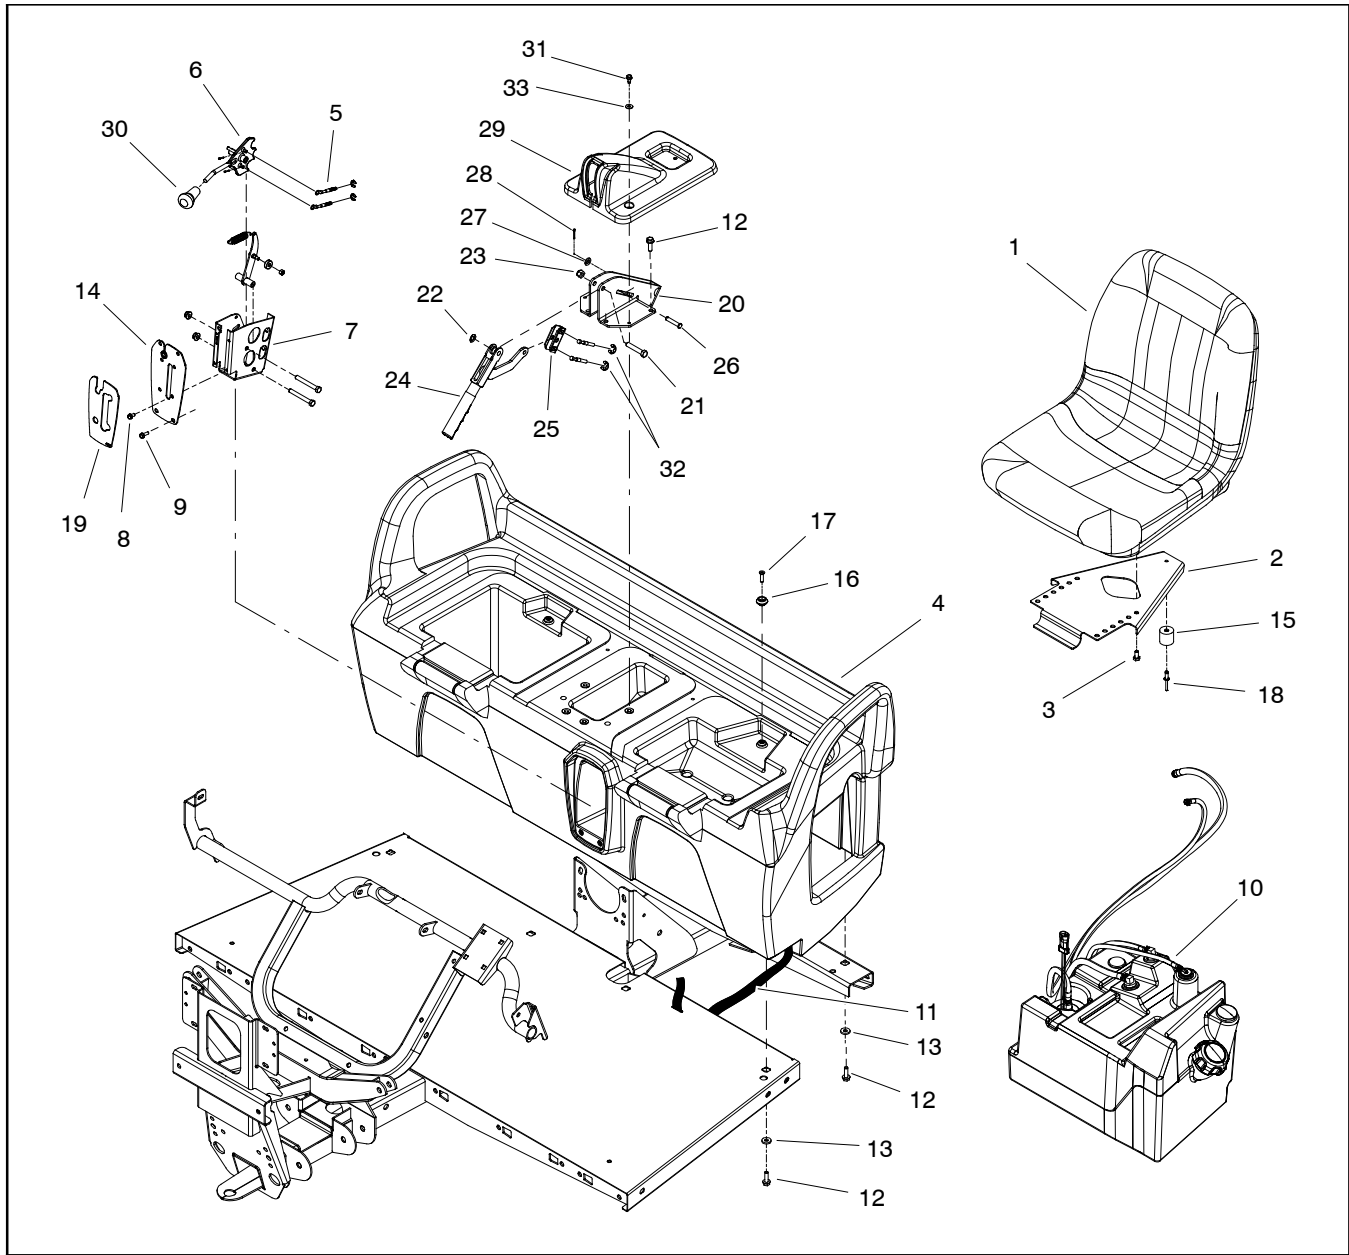
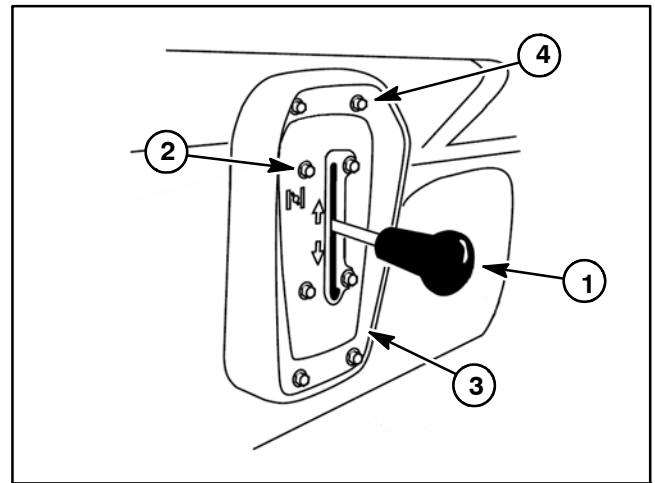

Figure 33
Figure 34
Seat Base Removal (Fig. 33)
4. Unscrew knob from the shift lever. Remove four (4) flange head screws (item 8 in Fig. 33) that secure the shift plate to the shift bracket (Fig. 34).
5. Remove four (4) flange head screws (item 9 in Fig. 33) that secure the shift plate to the seat base (Fig. 34). Separate shift bracket from the seat base.
6. Remove eight (8) flange head screws and flat washers that secure the seat base to the frame.
Seat Base Installation (Fig. 33)
2. Install eight (8) flange head screws and flat washers through the frame and into the seat base. Tighten screws from the middle of the vehicle to the outside.
4. Position shift plate to shift bracket making sure to capture cable flange. Secure shift plate to shift bracket with four (4) flange head screws (item 8 in Fig. 33). Screw knob onto the shift lever (Fig. 34).
5. Position shift plate with shift bracket to the seat base. Secure shift plate to seat base with four (4) flange head screws (item 9 in Fig. 33) (Fig. 34).